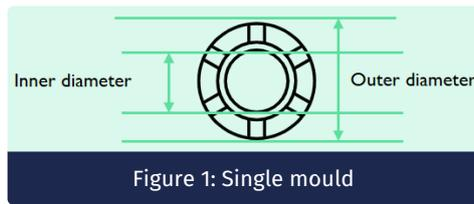

Figure 1: Single mould
- Check inner diameter using vernier calliper (see Figure 1): Step name: **ID**.